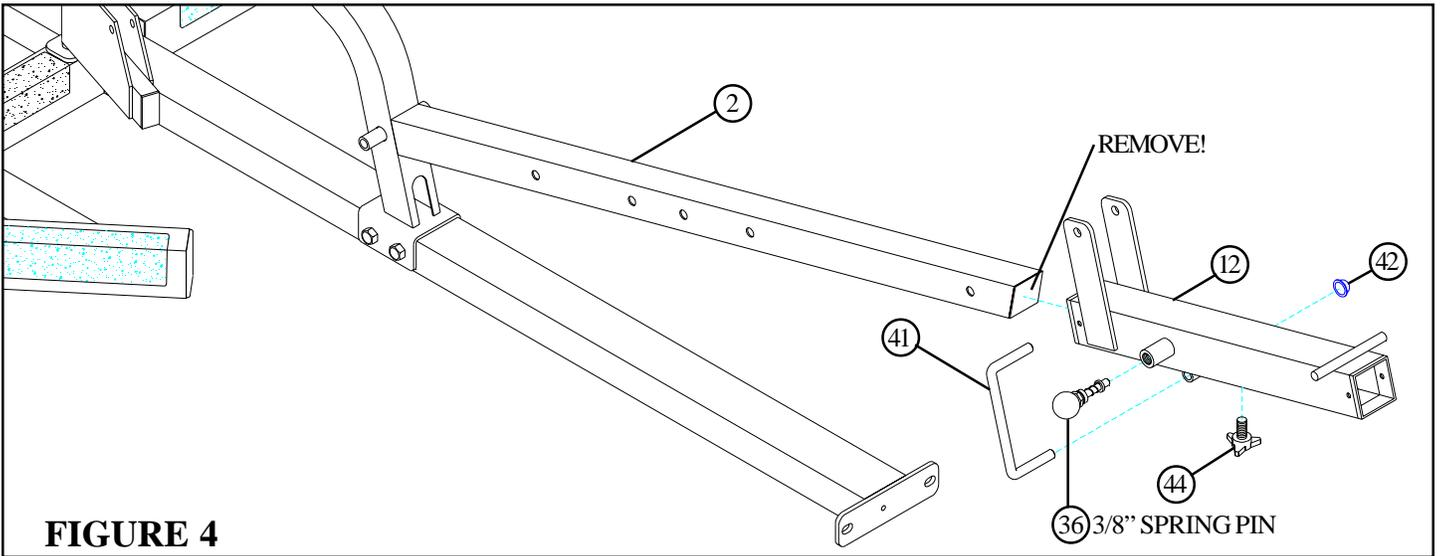

**FIGURE 3**
- Loosely attach the BENCH FRAME (2) to the BASE (1) and to the TOP BOOM (5) using four 1/2 X 4" BOLTS (68), two 1/2" WASHERS (55), and four 1/2" LOCKNUTS (53) as shown in FIGURE 3.